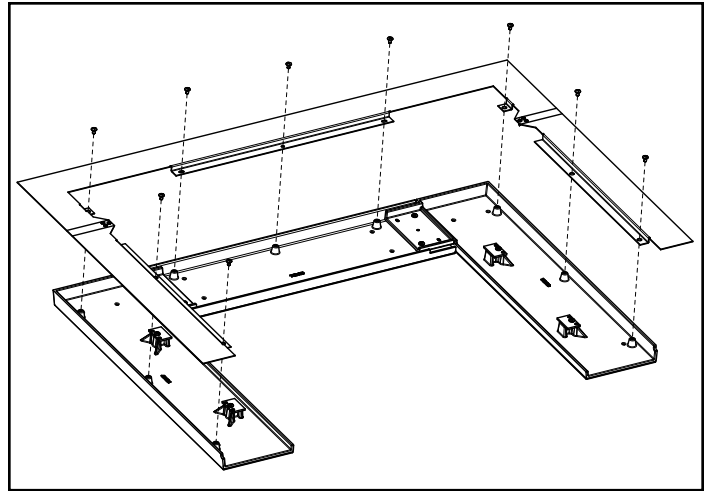

Figure 22.3
1. Align holes from Surround Extension Assembly as shown in **Figure 22.3**.
2. Using a Phillips Head screwdriver and nine (9) 1/4 -20 x 3/8 Phillips head screws; secure Panel Extension Assembly to Cast Surround Assembly.